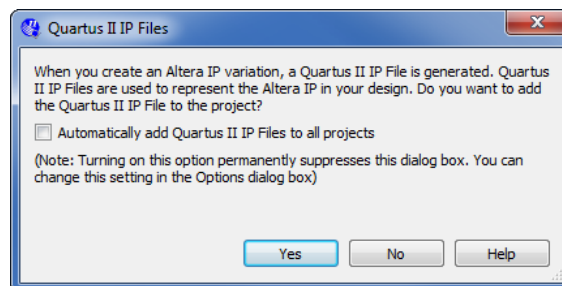
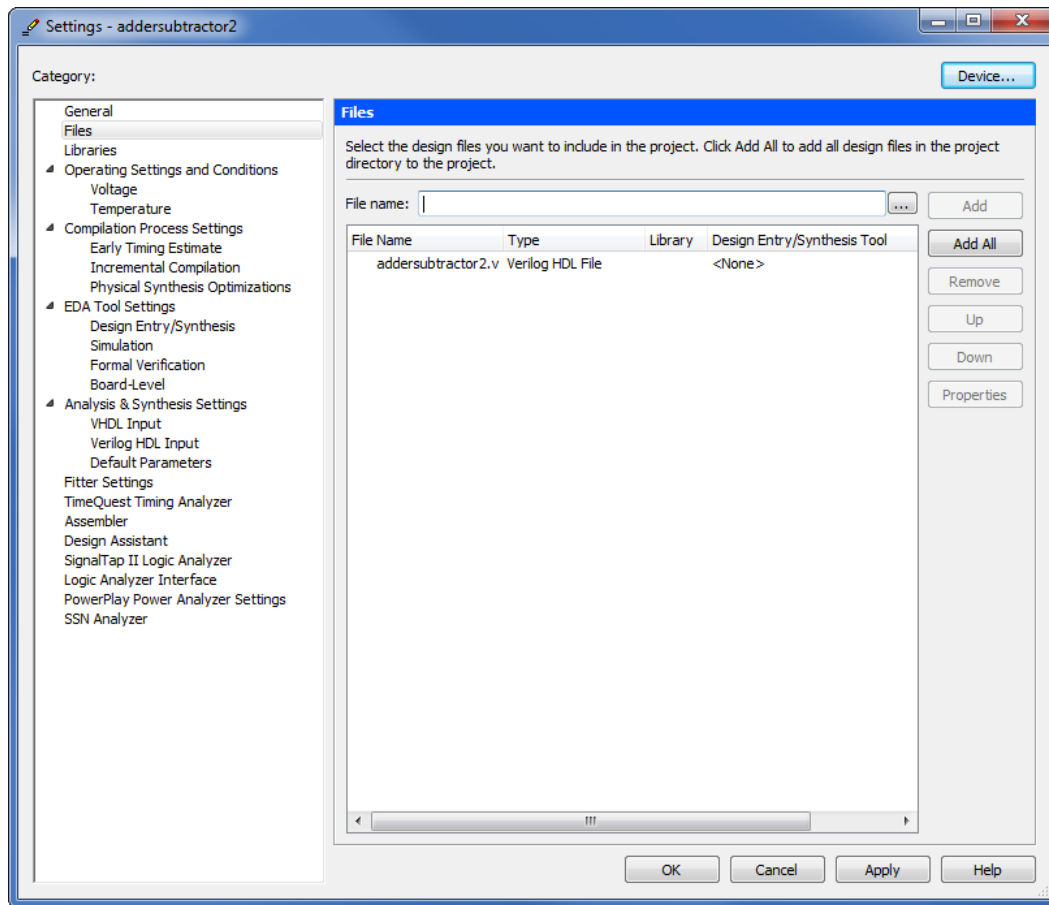
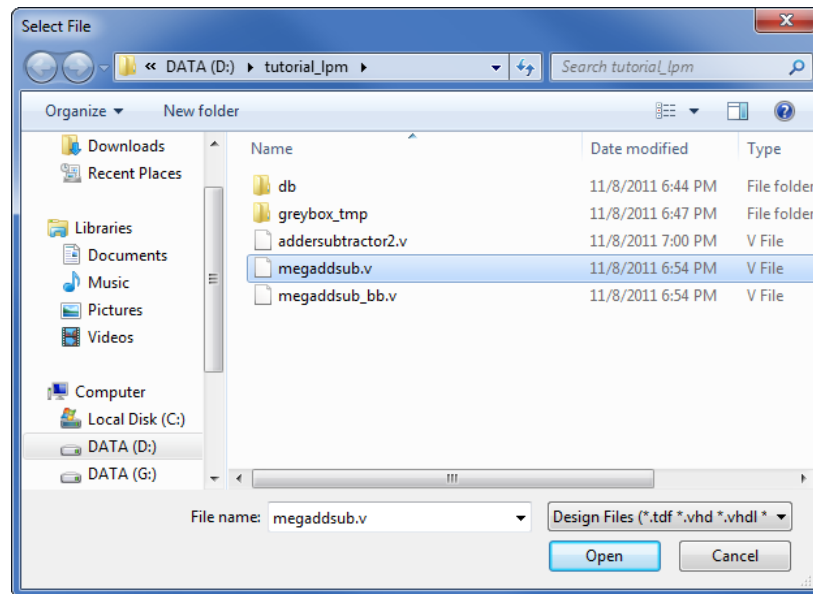

Figure 12. Add the new files to the project.
Figure 15. Inclusion of the new file in the project.
Figure 16. Specify the *megaddsub.v* file.
10. The box in Figure 12 may pop up. If it does, press **Yes** to add the newly generated files to the project.
If the *megaddsub.v* file has not been included in the project (e.g. if you answered **No** in the box in Figure 12, or possibly if the box did not show up at all), you need to include it manually. To include the *megaddsub.v* file in the project, select **Project > Add/Remove Files in Project** to reach the window in Figure 15. The file *addersubtractor2.v* should already be listed as being included in the project. Browse for the other files by clicking the button **File name: ...** to reach the window in Figure 16. Select the file *megaddsub.v* and click **Open**, which returns to the window in Figure 15. Click **Add** to include the file and then click **OK**. Now, the modified design can be compiled and simulated in the usual way.